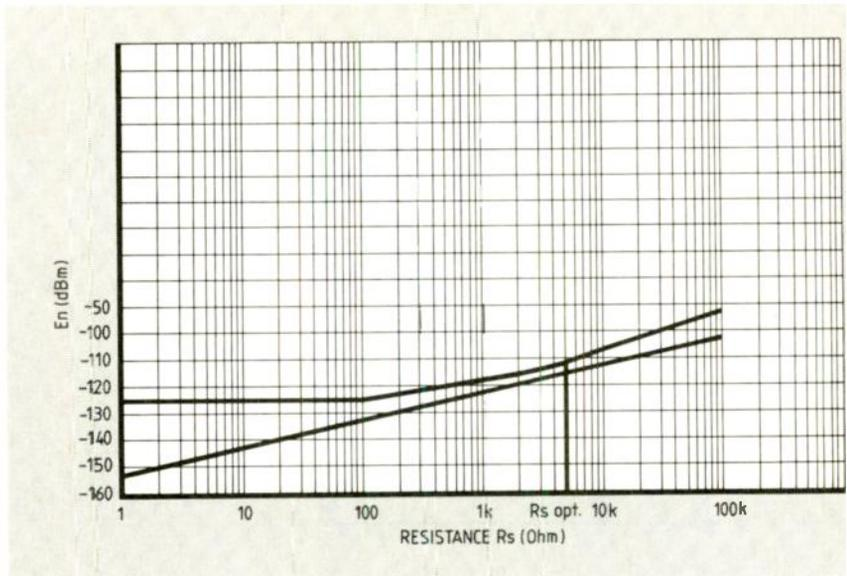
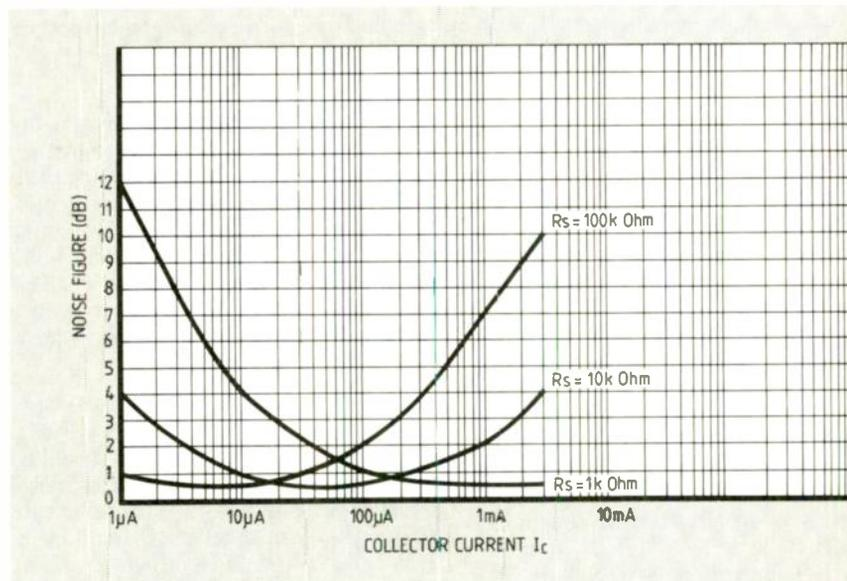

Fig.7. Optimum source resistance of an NE5534 op-amp (typical example without flicker noise in the audio band).
Fig.8. Noise figure and optimum source resistance R_s as a function of collector current I_c for an LM394 transistor.
Optimum source resistance. By taking a series of measurements with different resistance values, preferably using fixed-value metal film resistors, connected to the input of the device under test, it is possible to determine the optimum source resistance of the amplifier under test. This is the source resistance at which the difference between the noise generated by the amplifier and the noise of the source resistance is at a minimum. Figure 7 shows an example for the popular low-noise op-amp NE5534. From this diagram it can be seen that the optimum source resistance is approximately 5kΩ.
Bipolar transistors. P-n-p transistors are preferred in low-noise transistor circuits because of their marginally better noise characteristics at low source resistances, compared to equivalent n-p-n devices under the same conditions. The magnitude of the collector current influences the value of the base spreading resistance R_{bb} and thus the achievable optimum source resistance of a particular circuit. This is demonstrated in Fig.8 for the LM394 transistor.
- Collector current through the transistor. Let us consider a common dynamic microphone having an average source resistance of 100Ω and a common low noise op-amp with an optimum source resistance of 5kΩ (Fig.7). As Fig.8 shows, the collector current determines the optimum source resistance of a transistor stage. For the given source resistance the corresponding collector current is around 2mA per transistor. If such a diagram is not at hand, for example when using medium-power transistors whose noise performance is not specified by the manufacturer, the following rule²⁰ may be applied: